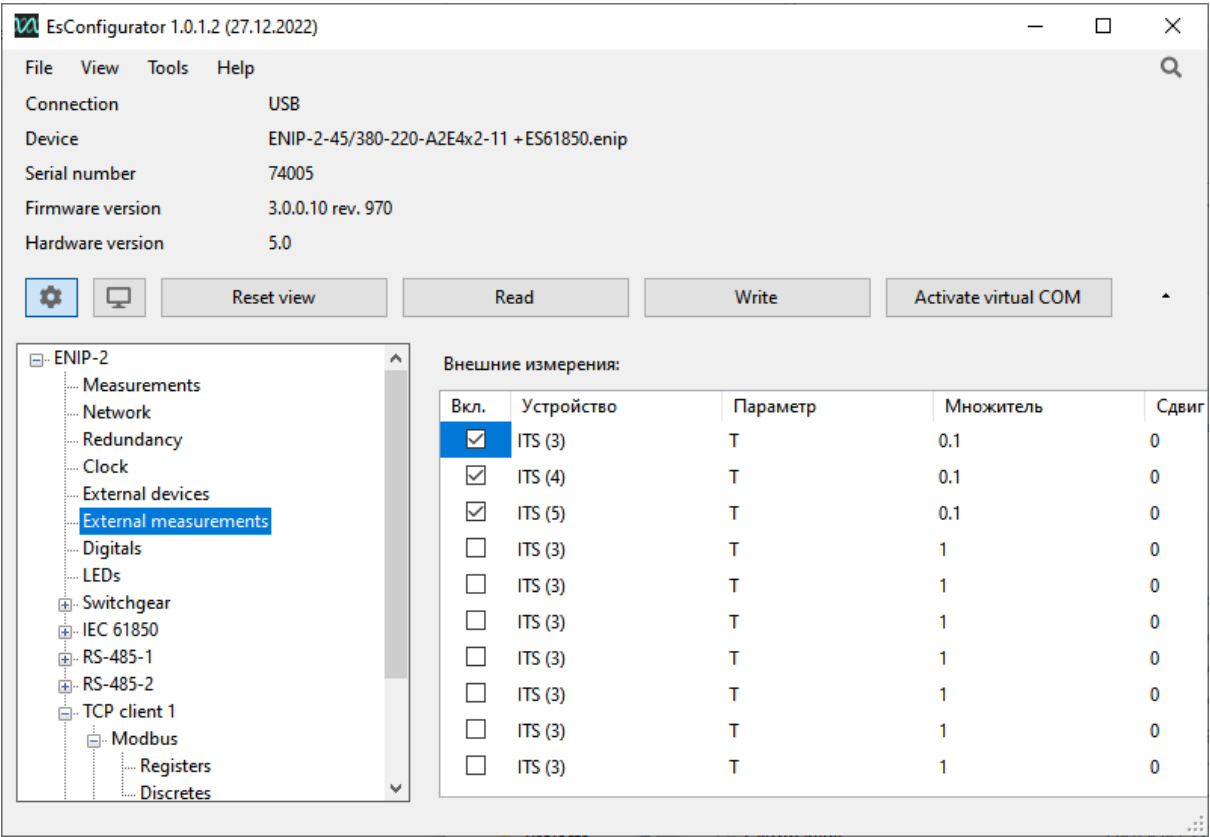

Figure 5.5. Enable ITS measurements in ENIP-2 configuration
2. In the *External measurements* section, check the box next to each connected sensor and set the required multiplier (for the ITS sensor, the multiplier is 0.1), see fig. 5.5.